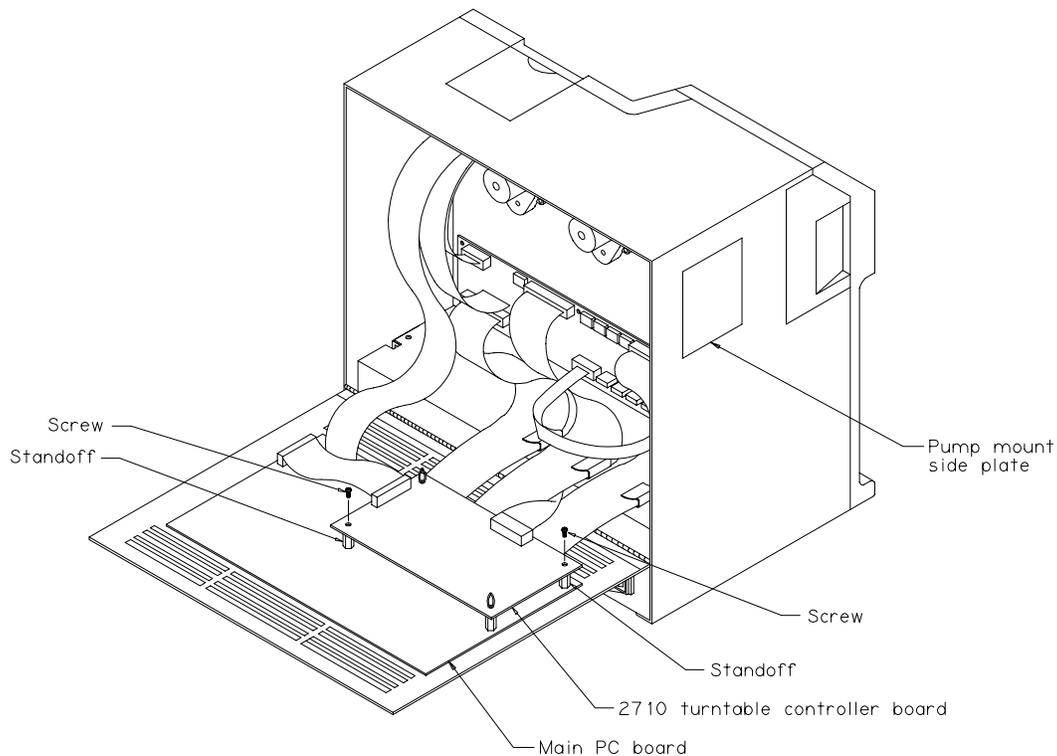

Figure 1 PC Board Installation
2. Remove the two screws on the upper rear of the instrument to allow the hinged back panel to open. Open the rear panel to expose the main printed circuit board and the smaller "piggyback" YSI 2710 turntable controller board as shown in Figure 1.
10. Next, discharge any static electricity again, then remove the new YSI 2730 printed circuit board from its anti-static bag. Install the circuit board where the 2710 turntable board was, as shown in Figure 1, using the two screws and washers removed earlier. Attach the two ribbon cables in their previous positions.
11. Using a small adjustable wrench (5/16", if available) loosen and remove the two locknuts securing the pump mount side plate from the inside of the instrument as shown in figure 1. Remove the side plate. Save the locknuts.